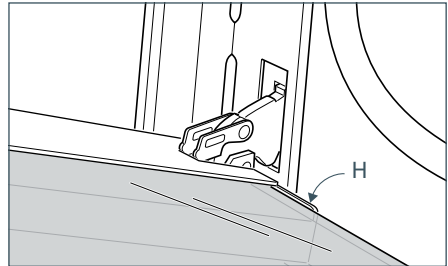

Fig.84c
- Insert the pane in the left "E" and right "F" slide guides, and gently slide it to the retainers "H" (Fig. 84c).